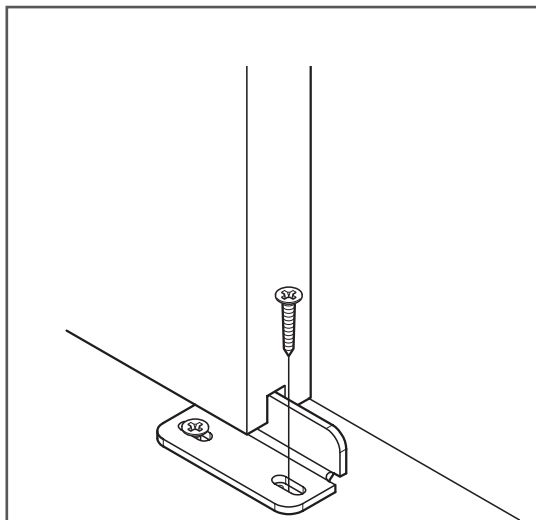

Figure 8
15. Install the second 1" phillips screw (provided) using a drill with a phillips bit (Figure 8).